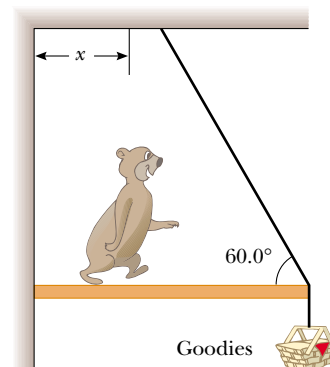

Figure P12.42
42. A hungry bear weighing 700 N walks out on a beam in an attempt to retrieve a basket of food hanging at the end of the beam (Fig. P12.42). The beam is uniform, weighs 200 N, and is 6.00 m long; the basket weighs 80.0 N. (a) Draw a free-body diagram for the beam. (b) When the bear is at $x = 1.00$ m, find the tension in the wire and the components of the force exerted by the wall on the left end of the beam. (c) If the wire can withstand a maximum tension of 900 N, what is the maximum distance that the bear can walk before the wire breaks?